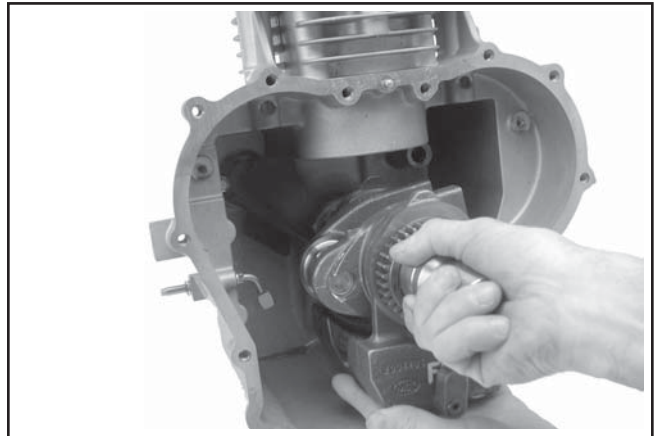
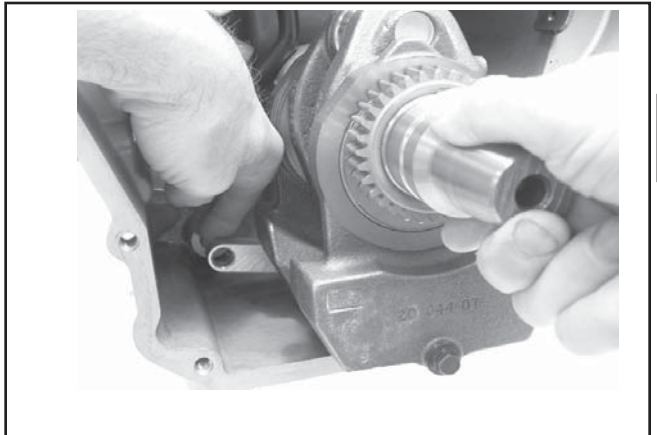

Figure 8-52. Removing Crankshaft and Balance Weight Assembly (Before Serial No. 3618005213).
Figure 8-53. Removing Crankshaft and Link (After Serial No. 3618005223).
1. Carefully remove the crankshaft and balance weight assembly from the crankcase. See Figure 8-52. On engines after **Serial No. 3618005223**, carefully lift the lower control link (for balance weight), off the boss of crankcase as the crankshaft is removed. See Figure 8-53.